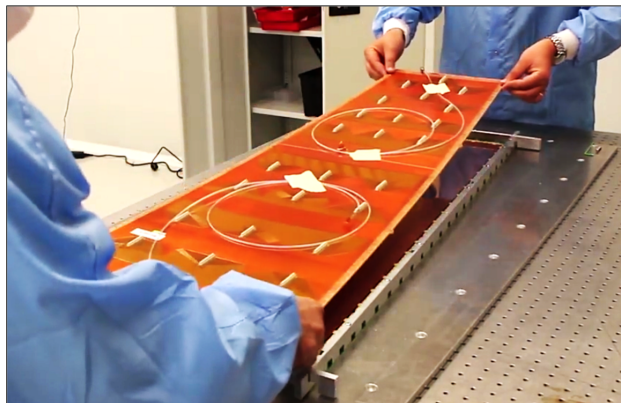

Figure 111: Mouting the readout board on the stack.
Step 4: Without touching the strips with fingers, place the readout board on top of the GEM stack (Fig. 111).